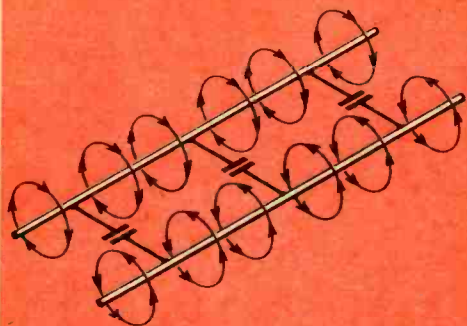
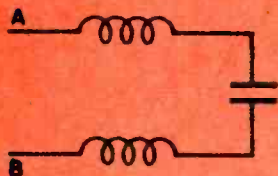

Fig. 1—Parallel wires act as capacitor. Wires have inductance, too, so current creates magnetic lines of force (arrows).
Fig. 2—Inductance and capacitance combined in a very small section of two-wire line.
**Characteristic Impedance.** To find out what the term means, let's take an extremely short piece of twinlead like that attached to your TV set and examine its electrical properties. First, think of the two little pieces of stranded wire as the two plates of a capacitor, between which there is a measurable capacitance. In Fig. 1 this capacitance is represented by the capacitor symbols. Each wire has inductance, too, and this is represented by the circles of arrows. When radio-frequency (RF) power is fed into this minute section of line (Fig. 2) each wire appears as a series impedance to the RF. Knowing the voltage and current of the RF, we can compute the impedance the signal sees when looking into A and B.
Fig. 3—Infinite number of sections in Fig. 2 are connected in parallel here. Voltage applied at A and B causes current flow through network. Characteristic impedance equals  $E/I$ .